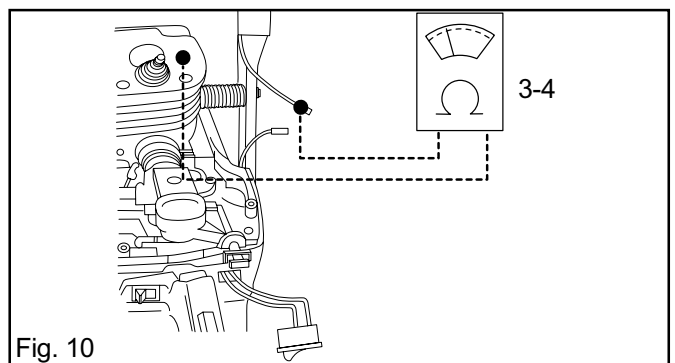

Fig. 10
5. Connect the ohmmeter as shown in fig. 10 and measure the resistance in the front handle heating element. The meter should read 3 - 4. If the reading is higher, replace the front hand grip.